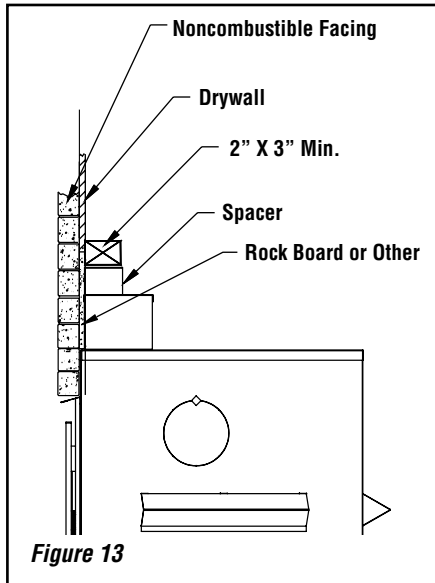

Figure 13
2. Non-combustible materials such as brick, stone or ceramic tile may project in front of and onto the fireplace facing up to the tiling flange (**Figure 13**).